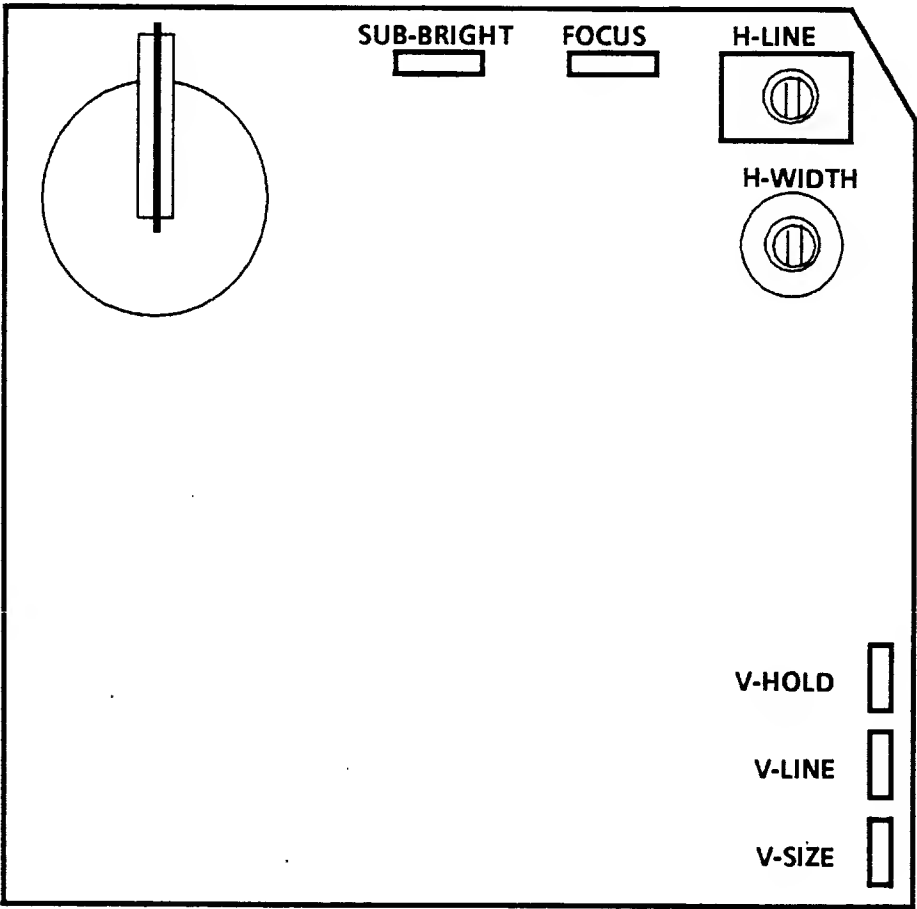

Figure 3-3 Adjustment Controls Locations
6. ADJUST BRIGHTNESS (FIGURE 3-3).
7. ADJUST FOCUS (FIGURE 3-3).
8. ADJUST VERTICAL HEIGHT (FIGURE 3-3).
- e. Press the **LINE FEED** key 7 times.
- h. Press the **LINE FEED** key 6 times.
9. ADJUST HORIZONTAL WIDTH (FIGURE 3-3).
10. ADJUST/CHECK HORIZONTAL LINEARITY (FIGURE 3-3).